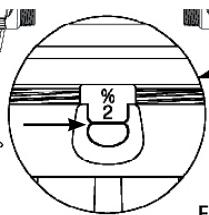

Fig. 14
- Screw or unscrew the adjusting nut in order to line up the 2 peaks of the eyelet with the desired ratio on the scale (Fig. 14).